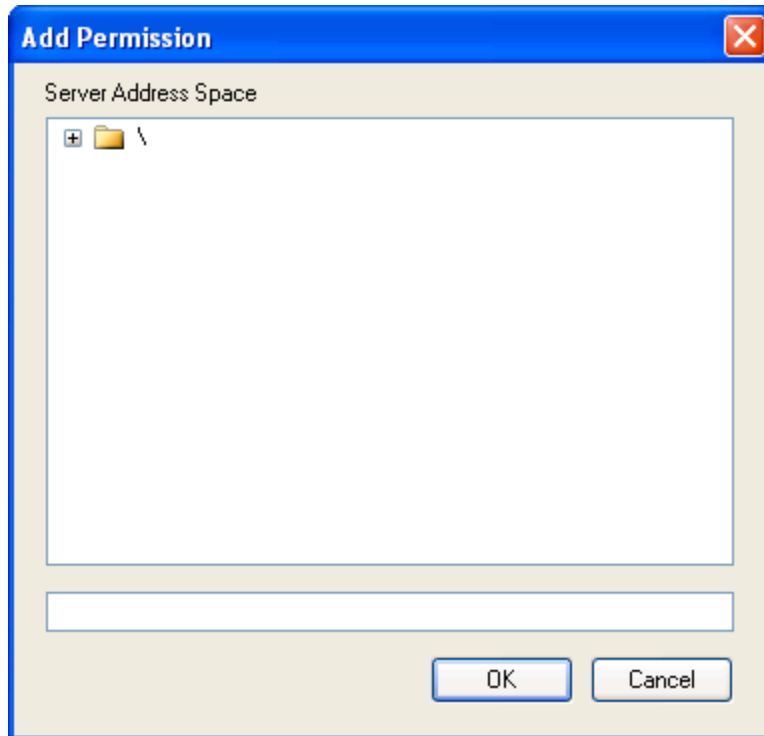

Figure 78 - Add User Permission Window
2. The **Add User Permission** window (Figure 78) appears. This window allows you to browse the OPC server address space to find either a path in the hierarchy, or a particular OPC item.